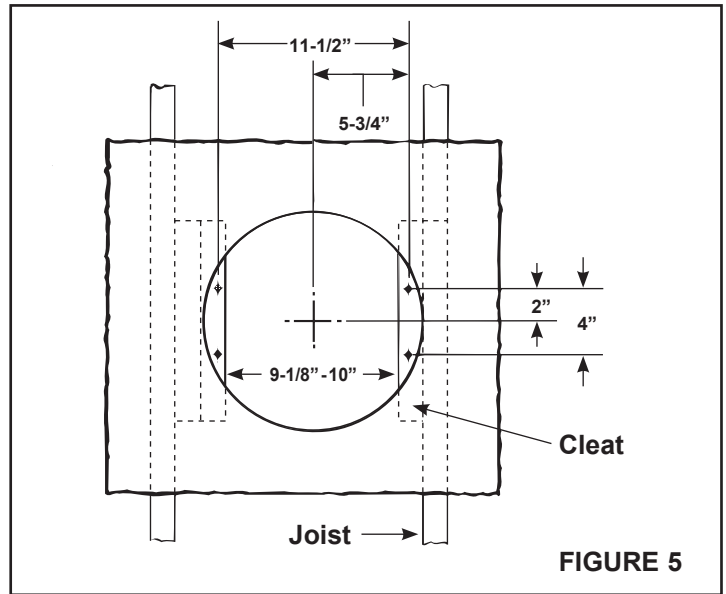

FIGURE 5
7. Refer to Figure 5. Install 2 x 4 cleats to both ceiling joists. In some cases it may be necessary to use more than a single cleat on one side. The distance between cleats must be at least  $9\frac{1}{8}$ " but not more than 10".